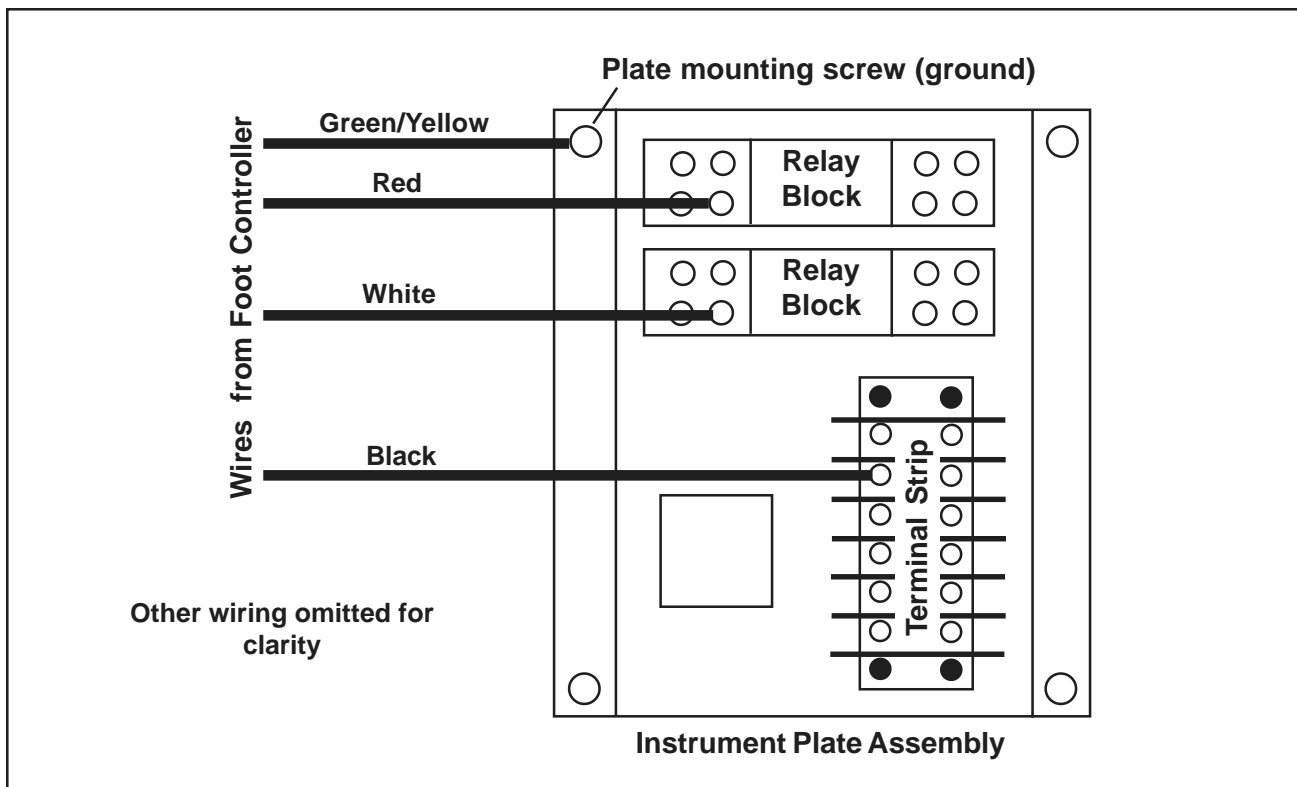

Figure 38. Foot Controller Wire Connections to the Instrument Plate Assembly
Foot Controller Wires (refer to Figure 38)
4. With a Phillips screwdriver, remove the green/yellow foot controller wire from the mounting screw (ground) on the instrument plate assembly (Figure 38).
5. With a Phillips screwdriver, disconnect the red foot controller wire from the relay block on the instrument plate assembly (Figure 38).
6. With a Phillips screwdriver, disconnect the white foot controller wire from the relay block on the instrument plate assembly (Figure 38).
7. With a Phillips screwdriver, disconnect the black foot controller wire from the terminal strip on the instrument plate assembly (Figure 38).
5. Connect the black foot controller wire to the terminal strip on the instrument plate assembly (Figure 38).
6. Connect the white foot controller wire to the relay block on the instrument plate assembly (Figure 38).
7. Connect the red foot controller wire to the relay block on the instrument plate assembly (Figure 38).
8. Connect the green/yellow foot controller wire to the mounting screw (ground) on the instrument plate assembly (Figure 38).